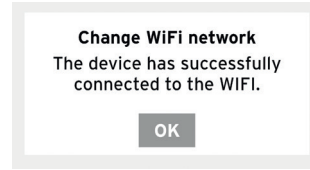

Fig. 9.9
- / a confirmation appears (Fig. 9.9)